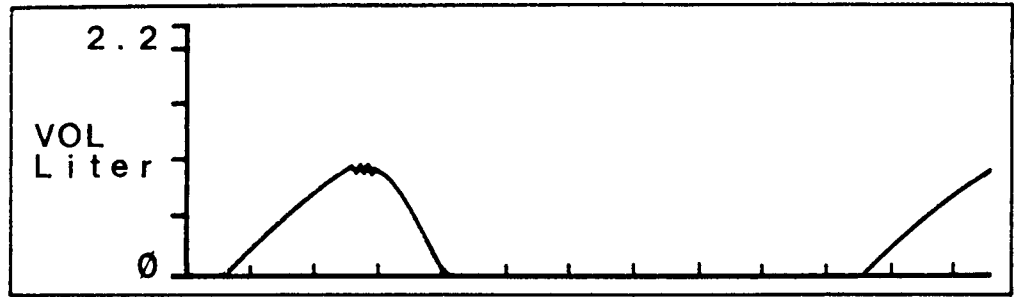

Figure 3.6.7.1-1 Volume Waveform Display
4. Press VOLUME. The graphic display shown in Figure 3.6.7.1-1 should appear